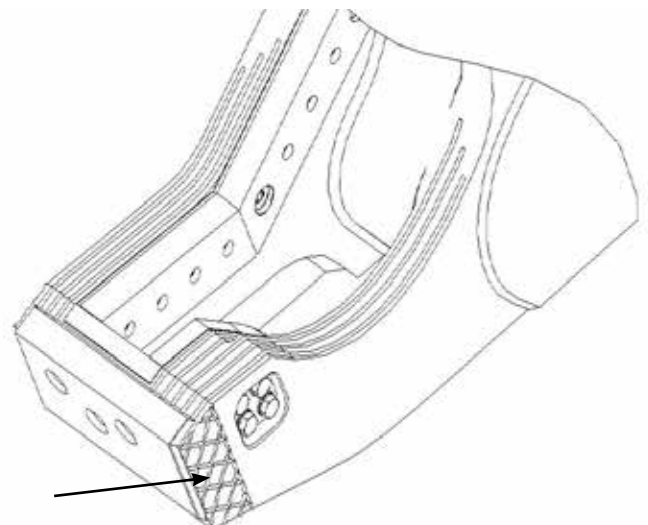

FIGURE 5-39
10. Use a similar technique to hardsurface the sides of the nose plate. Establish a 45° diamond pattern of approximately 1-1/2" (38 mm) (see Figure 5-39). Again, use the build-up rod to lay down the pattern and use the hardsurface rod on top. Use the air-operated slag peener to peen each pass to relieve weld stress and remove slag.